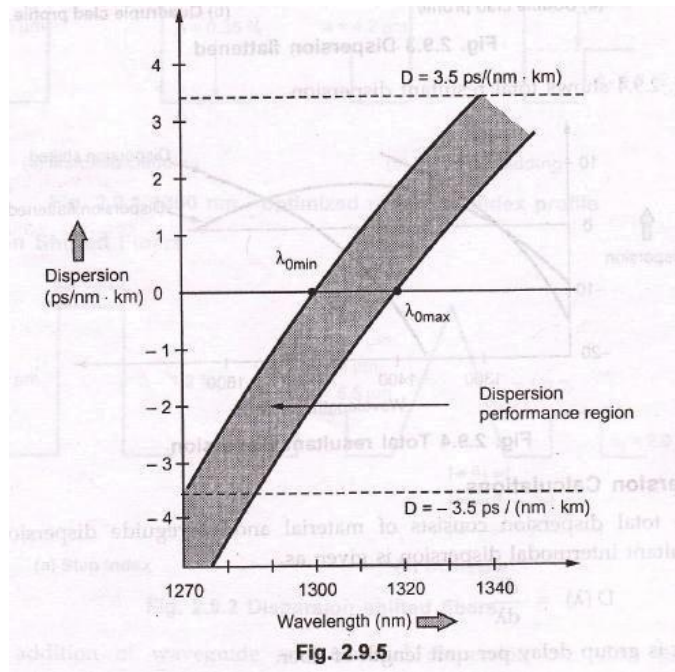

Fig. 2.9.5
11) Fig 2.9.5 shows dispersion performance curve for non-dispersion shifted fibers in 1270 – 1340 nm region.
- Maximum dispersion specified as 3.5 ps/(nm . km) marked as dotted line in Fig. 2.9.5.